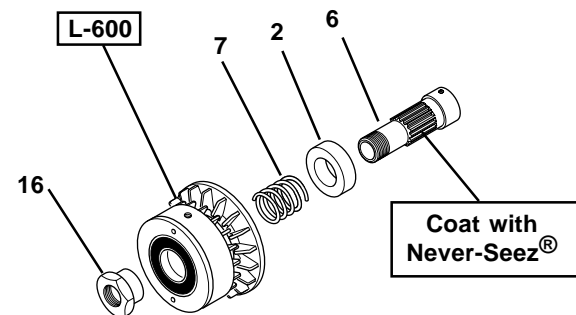

FIGURE 10
17. Slide the Spacer (Item 2) and compression Spring (Item 7) onto the Hub (Item 6) (See Figure 10).
18. Coat the splines of the Hub (Item 6) with a thin film of Never-Seez® (See Figure 10).
19. Slide the Hub (Item 6) into the L-600 (See Figure 10).
20. Install the Adjustment Nut (Item 16) (See Figure 10).